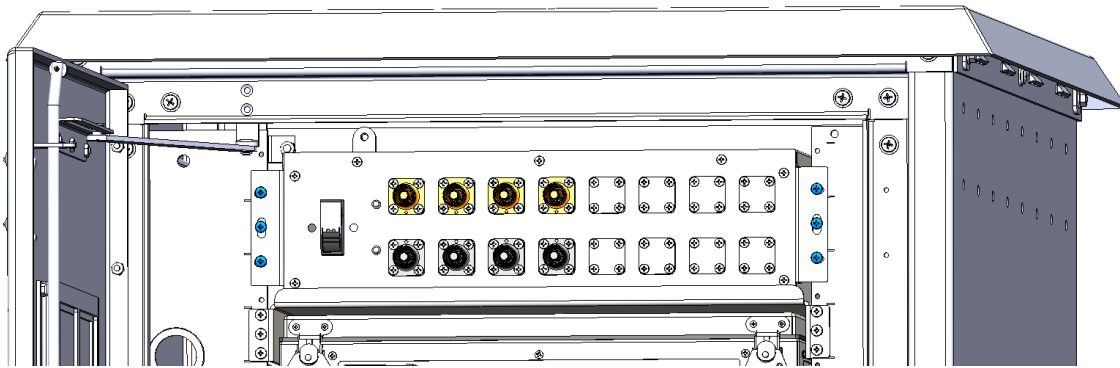

FIGURE 15: JUNCTION BOX LOCATION WITH MOUNTING HARDWARE
- Use (6) #10-32 x 1/2" screws [P-006998] to secure each SPOT/BOSS unit to the rack through the mounting brackets (Figure 15).